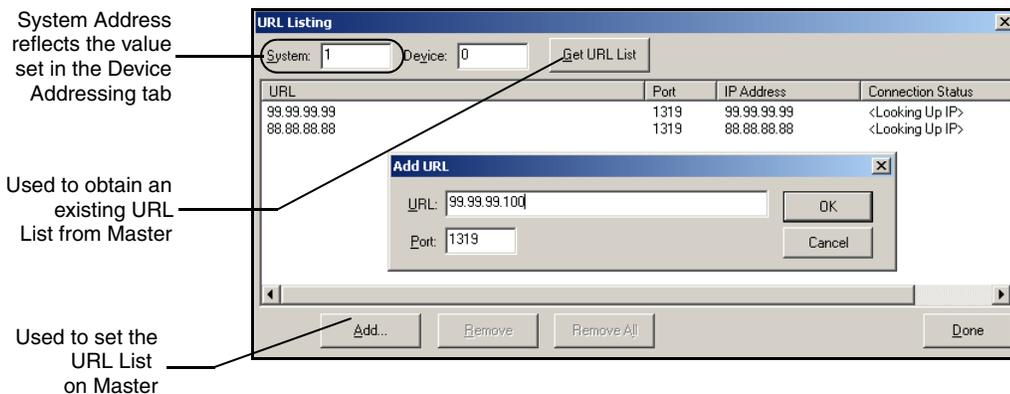

FIG. 64 URL List dialog
6. Select **Diagnostics > URL Listing** from the Main menu (FIG. 64).